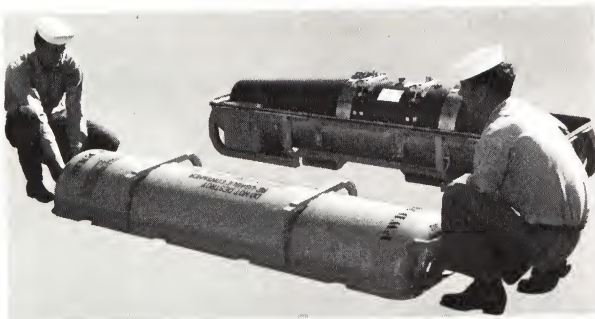

Figure 4-1. Lid Lifted from Container.
2. Lift upper half (lid) of container off, figure 4-1.